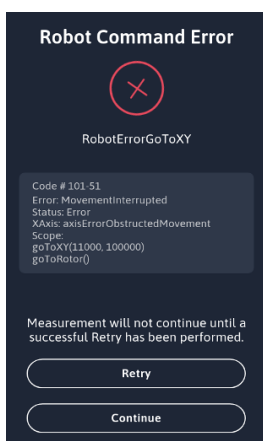
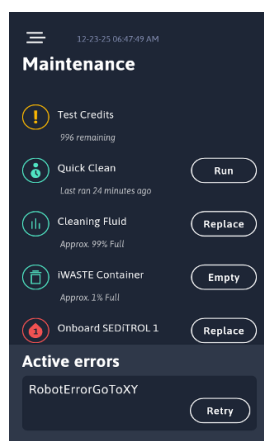

Figure 68
Figure 71
Certain iSED PRO errors result in a blocking condition where continued robotic movement or measurement is not possible or not safe for the instrument. In these instances, the iSED PRO will pause measurement functionality and show a full-page error on the display until the user selects “Retry” or “Continue” – see Figure 68 for an example. Although non-measurement functionality is allowed when in this paused state (such as result export), sample measurement and robotic movement are not allowed until the error is cleared.
2. To attempt to clear the error from the Home Screen before or after troubleshooting, navigate to the Maintenance Menu. At the bottom of the page will be an active error list with all blocking errors (Figure 71). Selecting one will open the full page error window once more, allowing selection of “Retry” or “Continue” (Figure 68).